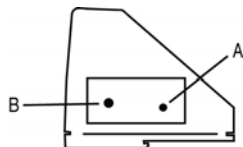

Fig.9
- Insert a receiver in to each heater in zone 1 and press the small recessed button (A) with a pen until the light (B) begins to flash. Press the button again briefly and the light will remain constant, confirming the signal has been received (see Fig.9)